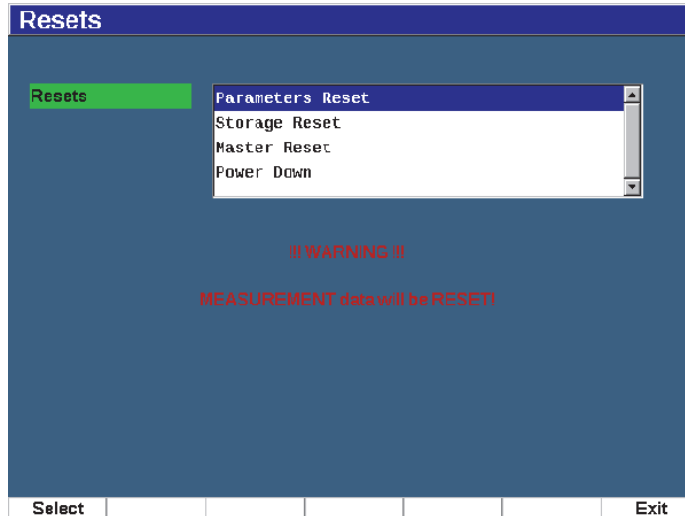

Figure 3-21 The Resets page
1. Choose **Manage > Reset** to display the **Resets** page (see Figure 3-21 on page 83).